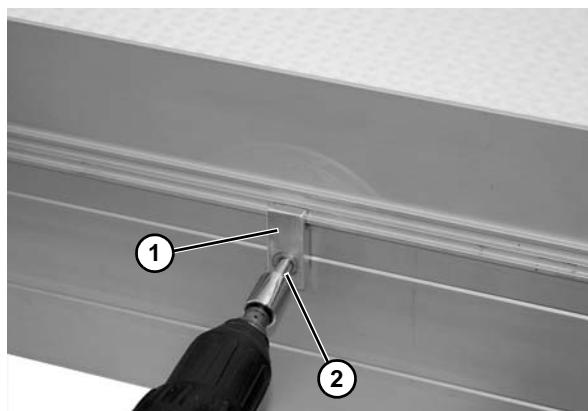

Figure 26
3. Position and hold bracket (**Figure 26, item 1**) to side rail. With a standard M6-1.0 or 1/4-20 screw, install screws (**Figure 26, item 2**) with cordless drill or equivalent. Do not fully tighten with drill.